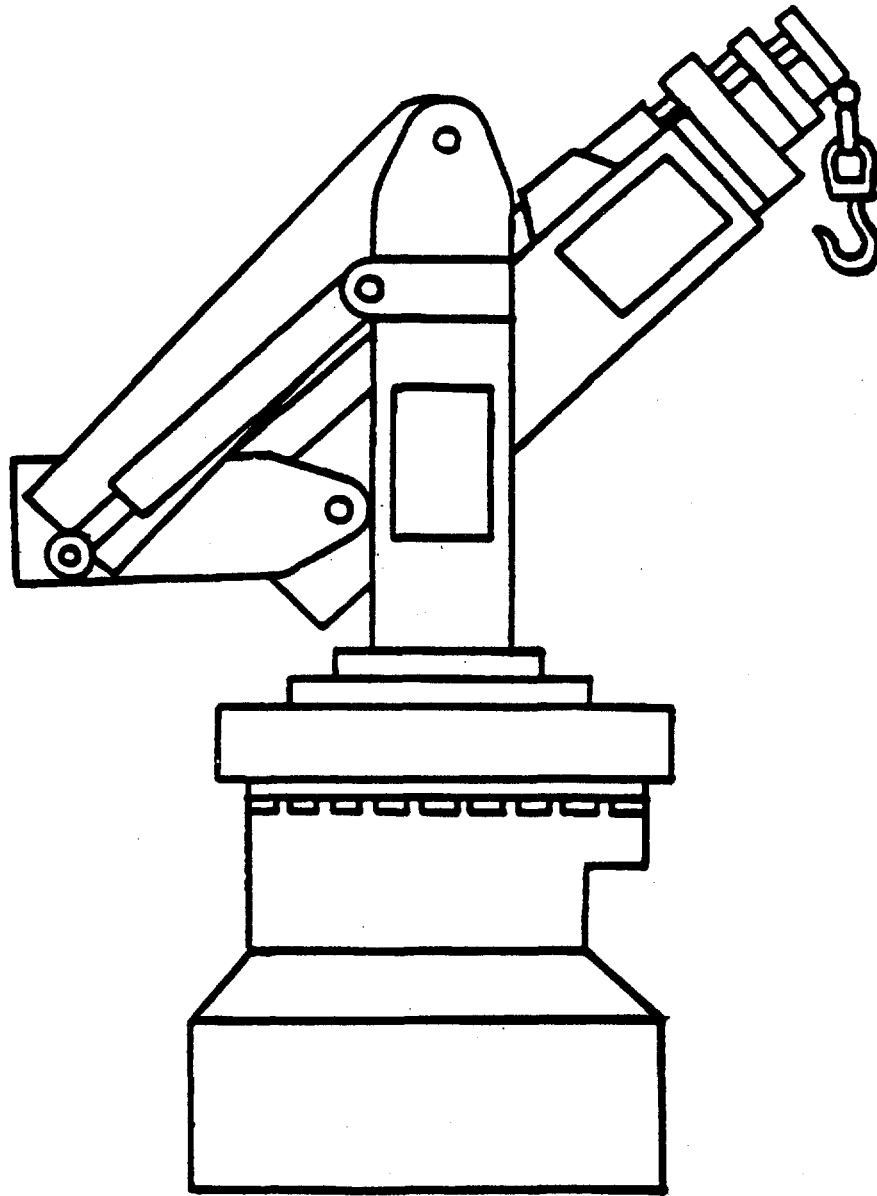

Figure 13-2. Bow Crane in Traveling (Stowed) Position
**13-3.2 Bow crane system.** The bow crane is a hydraulically operated articulating boom crane with a maximum outreach of approximately 47 feet. Maximum lift capacity at this extension is 2,425 pounds. Maximum lift is 41,895 at an outreach of only 6 feet, 7 inches. The crane is corrosion-proof and suitable for operation in a marine environment. The crane has five major assemblies: crane body, inner boom, outer boom, mounting base, and hydraulic control unit. When not in daily use, bow crane must be placed in its traveling (stowed) configuration (Figure 13-2).